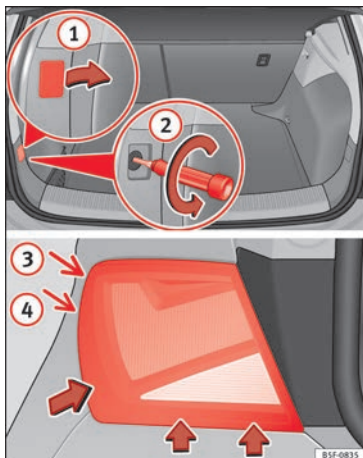

Fig. 111 Luggage compartment: location of the bolt securing the tail light unit. Remove the rear light unit from side panel.
- Remove the cover by prying the flat side of a screwdriver into the recess and remove the cover from the opening » **Fig. 111 ①**.
- Carefully loosen the screw located behind the cover with a screwdriver, turning it anti-clockwise » **Fig. 111 ②**.
- Tilt the light in the direction of the arrows until it comes out of its housing (positions **③** and **④**) » **Fig. 111**.